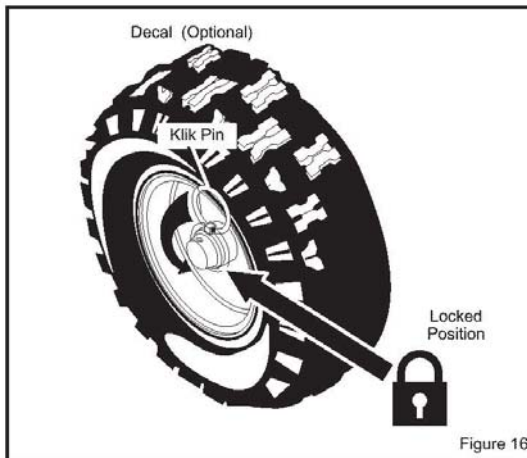

Figure 16
1. The left hand wheel is secured to the axle with a klik pin. This unit was shipped with this klik pin in the locked position. (Figure 16).